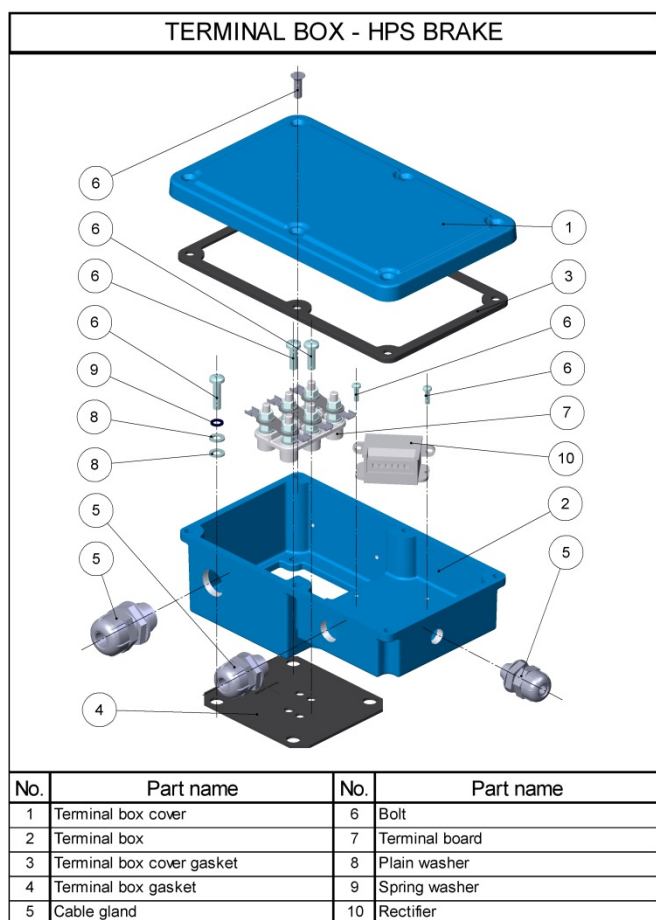

Fig. 15
- version with an HPS brake (fig. 15)